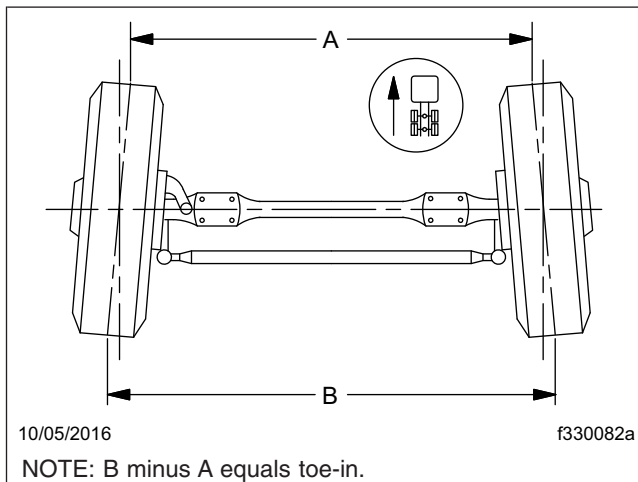

Fig. 7, Wheel Toe-In (overhead view)
- Place a trammel bar at the rear of the front tires; locate the trammel pointers at spindle height, and adjust the pointers to line up with the scribe lines on the center ribs of the front tires. See Fig. 7. Lock in place. Check that the scale is set on zero.